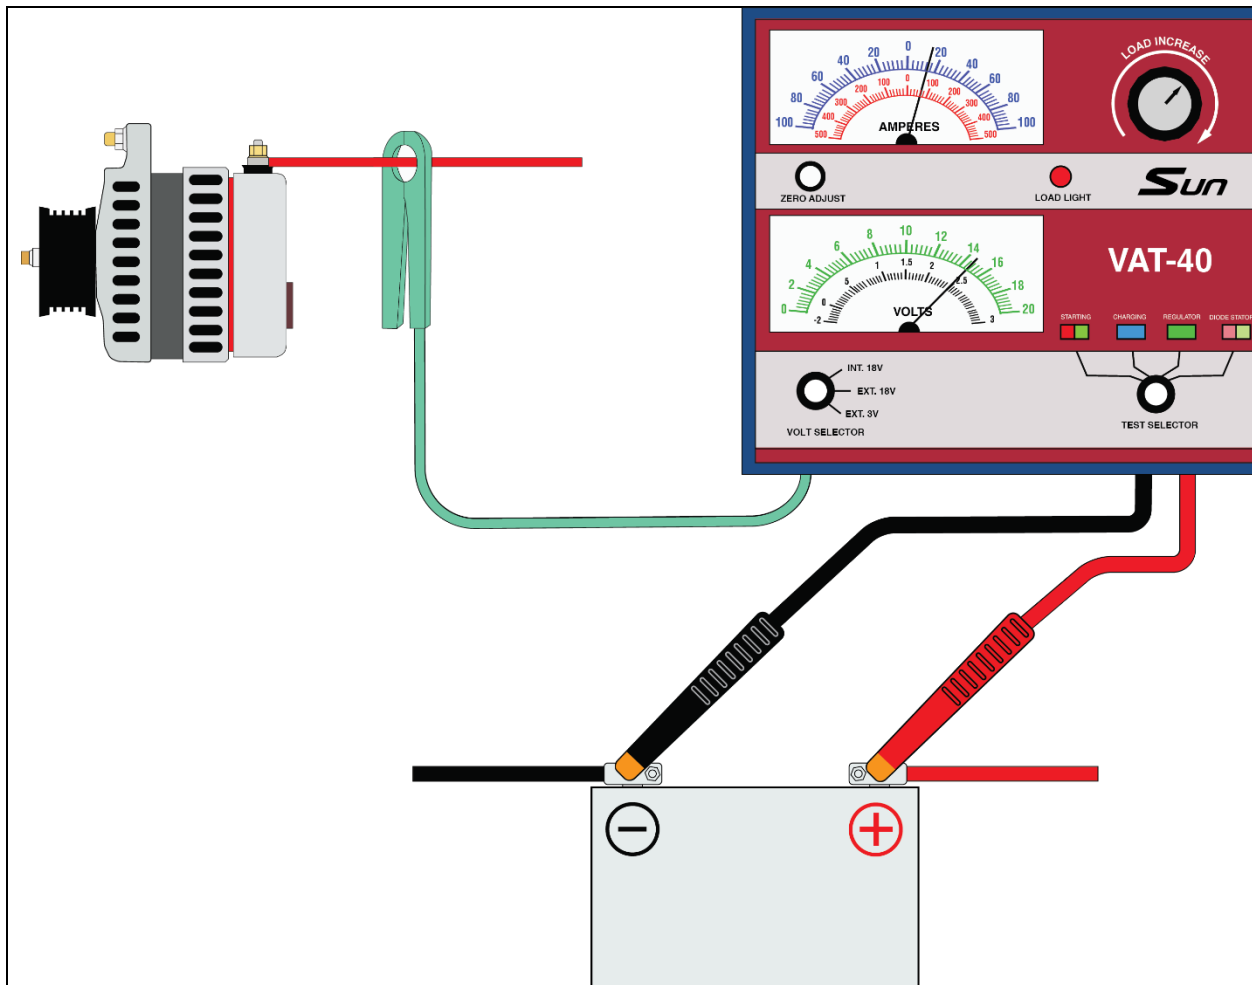

Figure 6
- Test #2 — Begin the test under no electrical load and in a cold condition, with all accessories still off and the engine running at 2,000 rpm. Apply an electrical load by turning the tester's Load Control knob clockwise until a reading of 50% of the battery's CCA rating is displayed. (See Figure 6.)